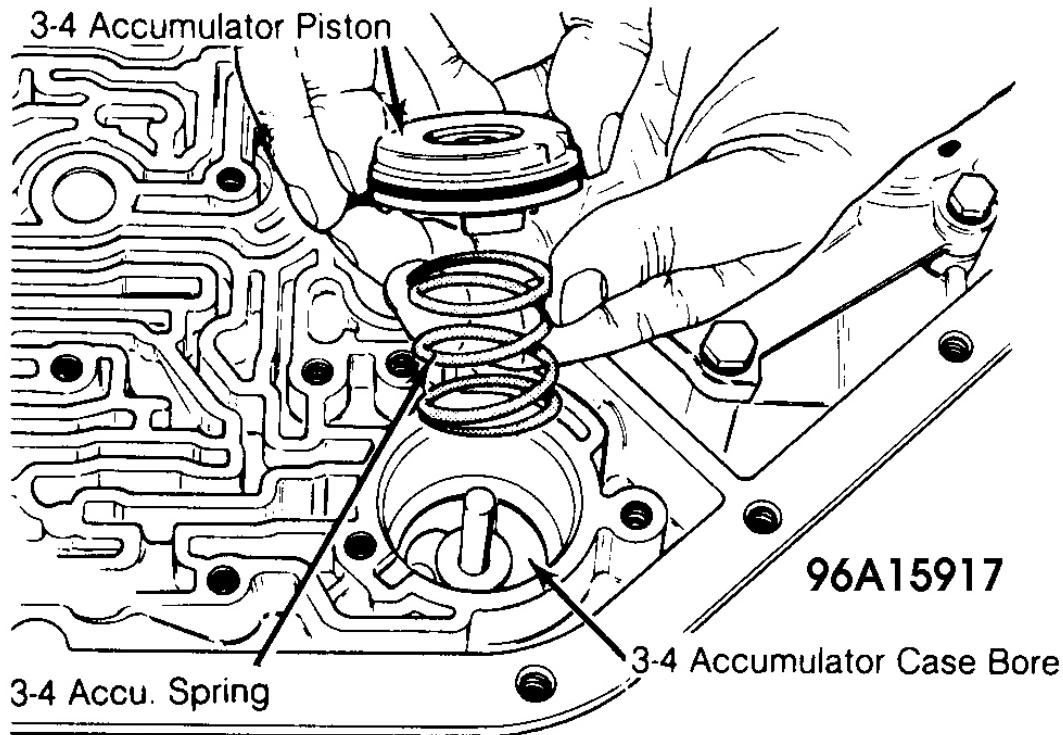

Fig. 40: Installing 3-4 Accumulator Assembly
4. Install a new Teflon seal on 3-4 accumulator piston. Install accumulator pin in case. Install accumulator piston and spring. See **Fig. 40** .